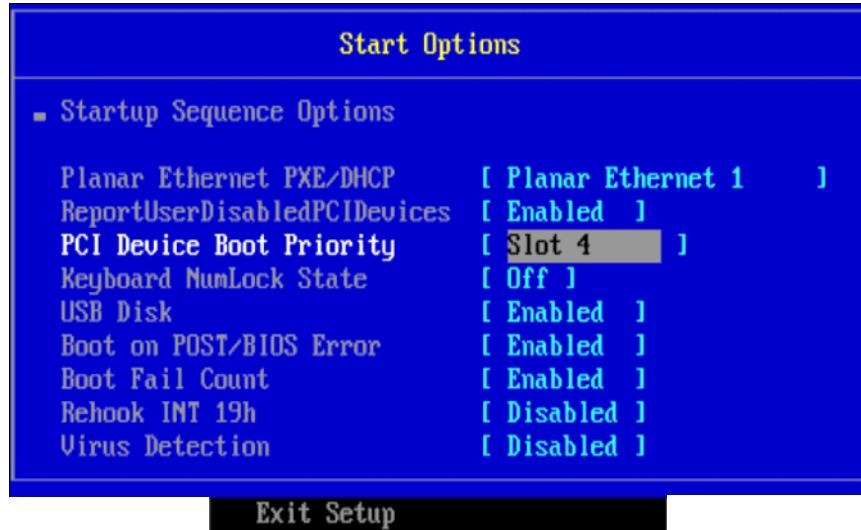

Figure 18-35 Selecting PCI Device Boot Priority in Start Options panel
4. Scroll to the **PCI Device Boot Priority** option and select the slot in which the HBA is installed as shown in Figure 18-35.